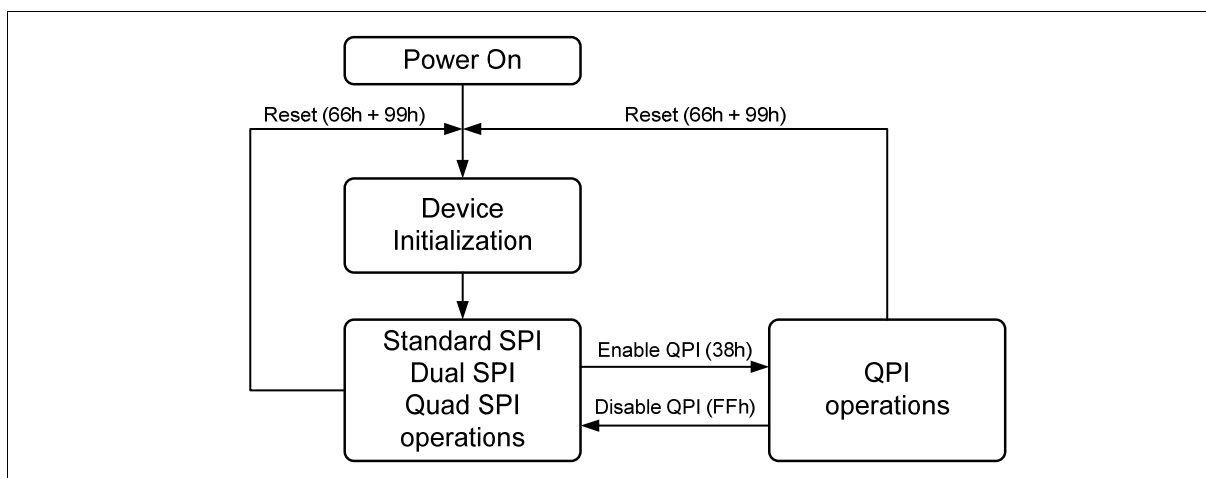

Figure 2 FM25Q16 Serial Flash Memory Operation Diagram
The FM25Q16 supports Quad Peripheral Interface (QPI) operations only when the device is switched from Standard/Dual/Quad SPI mode to QPI mode using the “Enable QPI (38h)” instruction. The typical SPI protocol requires that the byte-long instruction code being shifted into the device only via DI pin in eight serial clocks. The QPI mode utilizes all four DQ pins to input the instruction code, thus only two serial clocks are required. This can significantly reduce the SPI instruction overhead and improve system performance in an XIP environment. Standard/Dual/Quad SPI mode and QPI mode are exclusive. Only one mode can be active at any given time. “Enable QPI (38h)” and “Disable QPI (FFh)” instructions are used to switch between these two modes. Upon power-up or after a software reset using “Reset (99h)” instruction, the default state of the device is Standard/Dual/Quad SPI mode. To enable QPI mode, the non-volatile Quad Enable bit (QE) in Status Register-2 is required to be set. When using QPI instructions, the DI and DO pins become bidirectional DQ₀ and DQ₁, and the WP# and HOLD# pins become DQ₂ and DQ₃ respectively. See Figure 2 for the device operation modes.